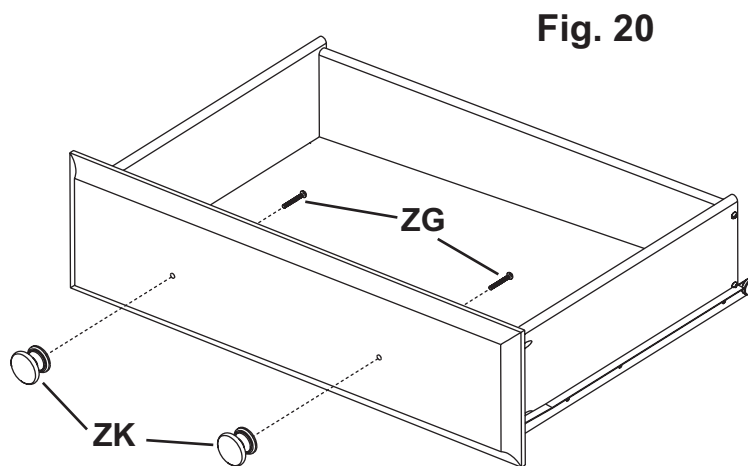
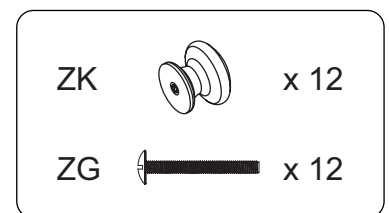

**Fig. 19**
**Fig. 19a**
- 19.** Place the drawers open face down. Square the drawers by measuring opposing corners. The measurements should be equal. If not, hold the drawer by the corners of the longest line and squeeze them together until square. See Figure 19. The drawer slides have an overhang. Position the slides with this overhang on the bottom of the drawer side. The slides should be flush to the back of the Drawer Face (J/N) with the wheels to the rear. The slides will extend beyond the back of the drawer. Attach the Drawer Slides (Drawer Side Left DL) Y4 and (Drawer Side Right DR) Y3 to the drawer assemblies with #6 x 1/2" Undercut Screws (ZA). See Figure 19a.